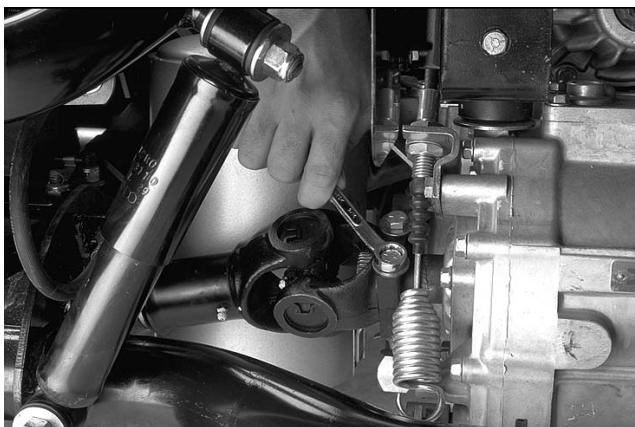

Figure 9
4. Loosen and remove flange nuts, cap screws, and hardened washers securing driveshaft to splined axle shaft of transaxle (Fig. 9).
5. Remove the yoke straps (18) securing driveshaft bearing cross to the end yoke (17), then disconnect driveshaft from the end yoke.
6. Loosen flange nut (1) that secures end yoke to stub axle (5). Remove flange nut and flange head screw (21). Discard flange nut. Pull end yoke from stub axle.
- IMPORTANT: Flange nut (1) should be replaced whenever it is removed.**
9. Secure drive shaft to transaxle shaft (Fig. 9):